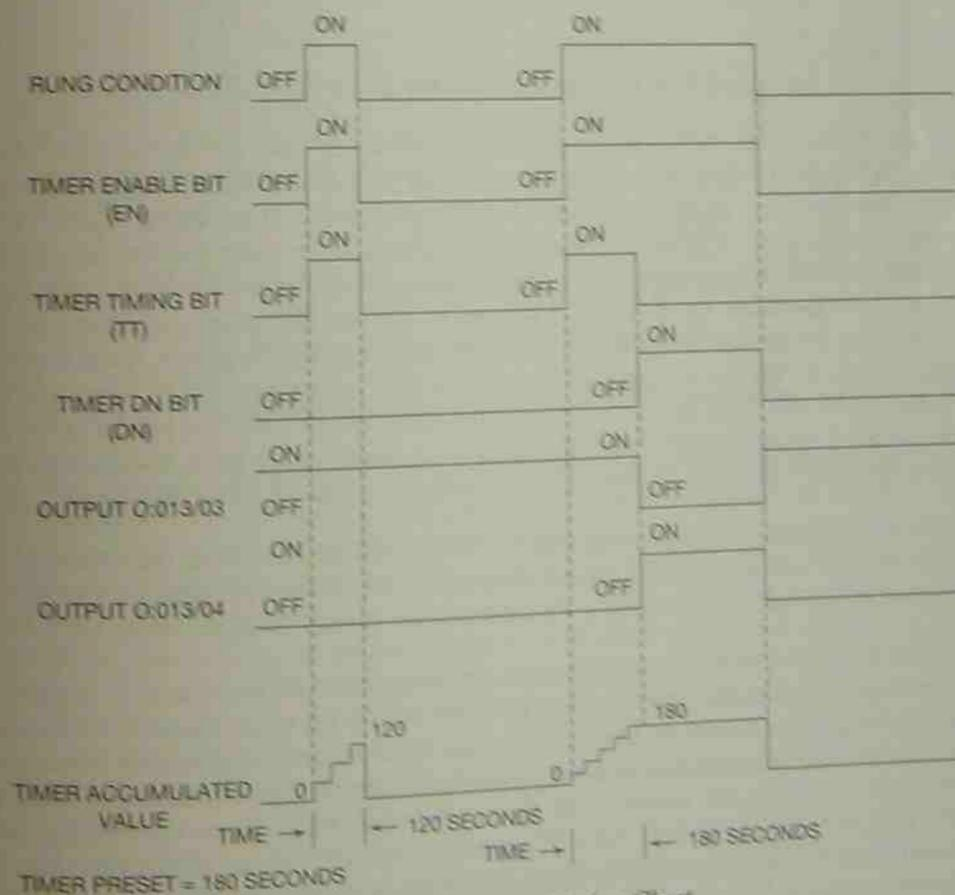

Figure 12-19 TON Timing Chart
Figure 12-19 shows a typical timing chart. Notice that when the Rung condition is true (ON), the timer will time, but if the Rung goes false (OFF), the timer resets to 0, as illustrated, during the first two minutes of the timing diagram.